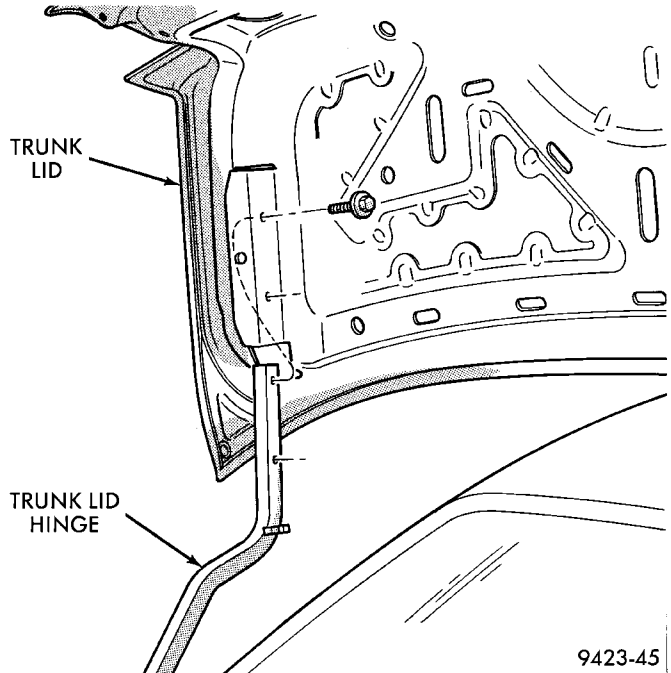

Fig. 72 Trunk Lid
- (1) Release trunk latch and open trunk lid.
- (2) Mark bolt locations on inside of trunk lid to aid installation.
- (3) Disengage clips holding wire harness and trunk lid release cable to trunk lid.
- (4) Disengage wire connector and release cable from trunk latch.
- (5) Remove bolts holding top of hinge to trunk lid (Fig. 72).
- (6) With aid from a helper, remove bolts holding bottom of hinge to trunk lid.
- (7) Separate trunk lid from vehicle.